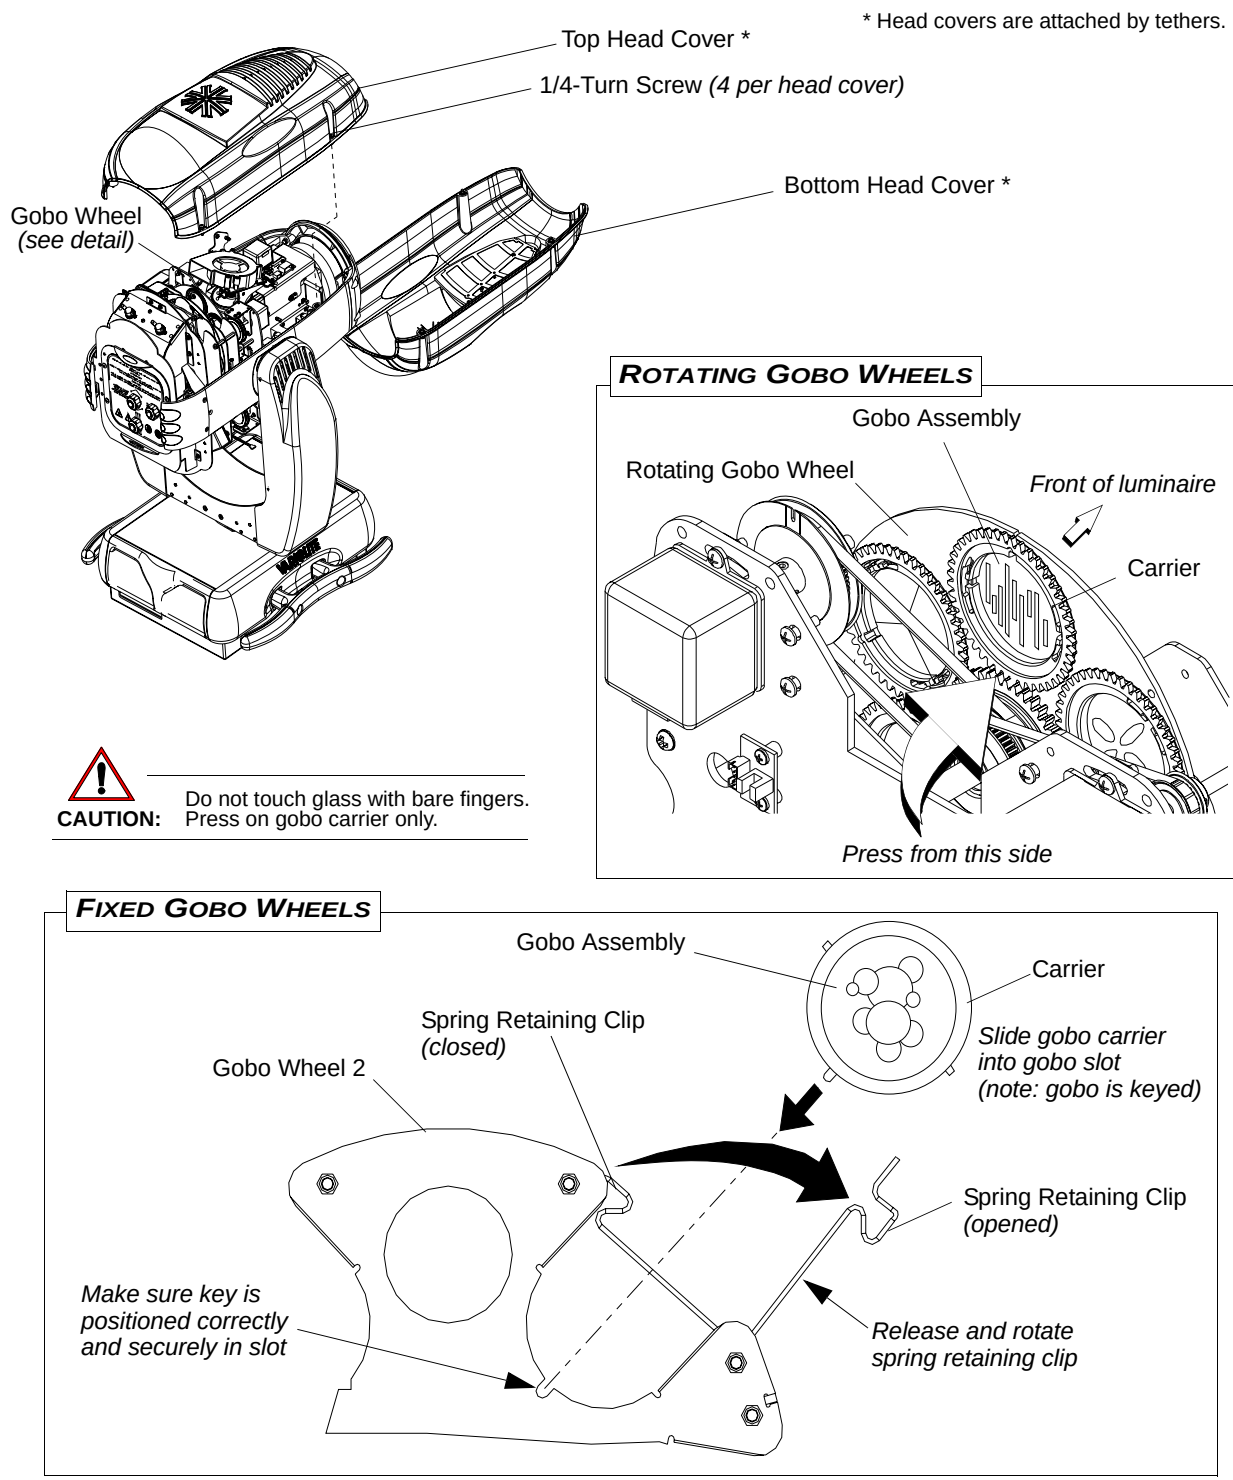

Figure A-3: Replacing Gobos
- a. To access Wheel 1, remove bottom cover as shown in Figure A-3.
- b. To access Wheel 2, remove top cover as shown in Figure A-3.
- a. Release (open) spring retaining clip as shown in Figure A-3.